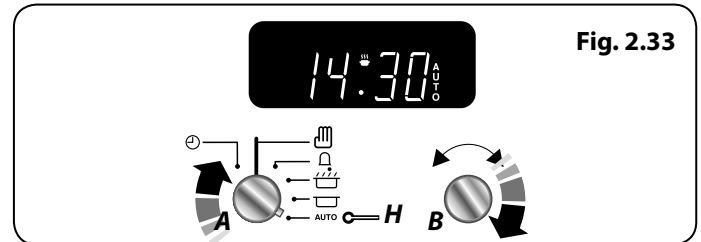

Fig. 2.33
5. Turn the **Timer (A)** knob to the **Auto (H)** setting (**Fig. 2.33**). If the display shows the current time and the word 'AUTO' the Multifunction Oven is set to turn on and off.